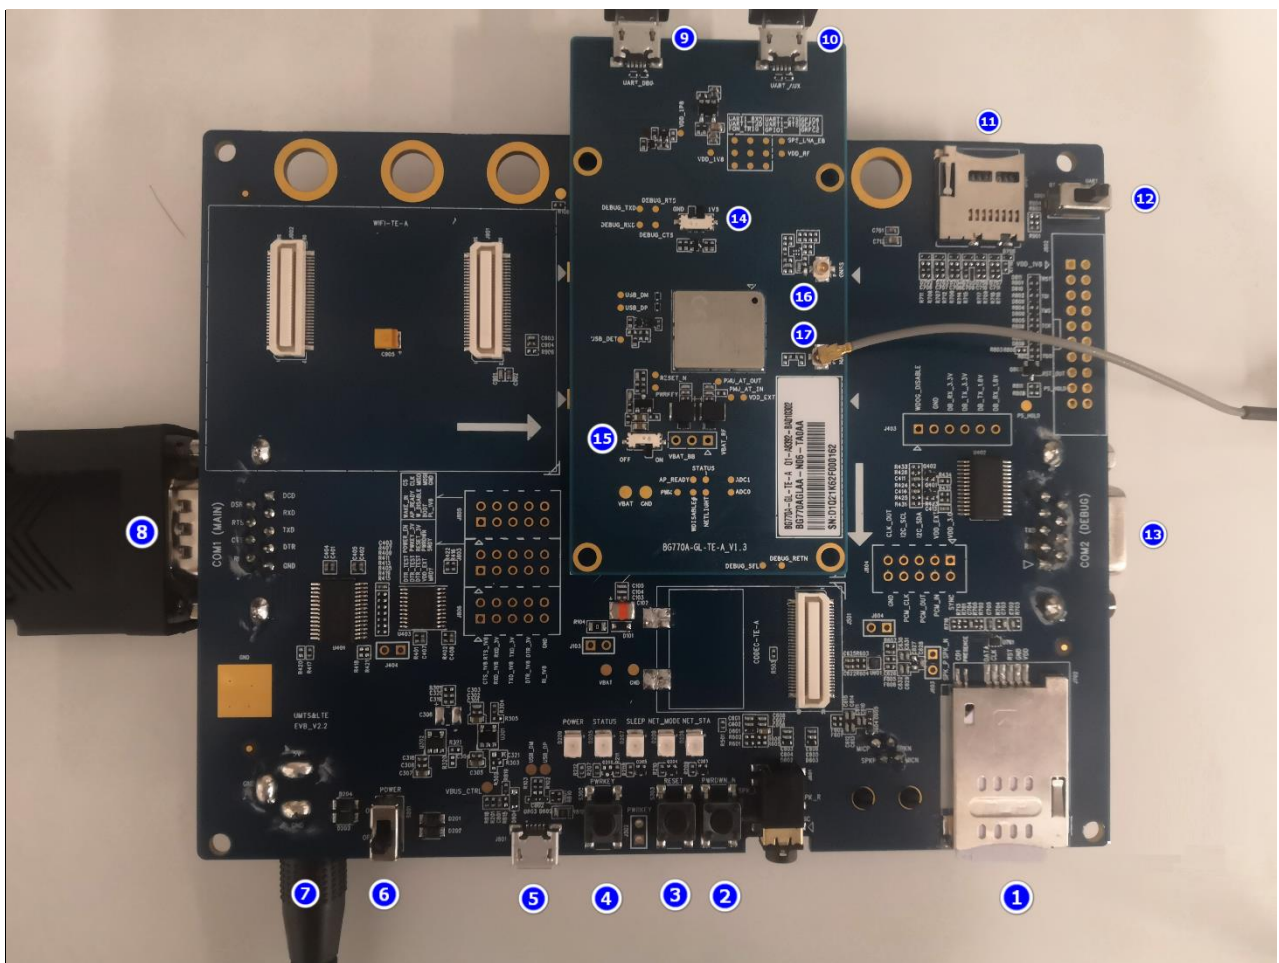

Figure 1: BG770A-GL TE-A
3. The differences between BG95xA-GL TE-A and BG77xA-GL TE-A are the location and name of the interfaces (i.e., the interfaces marked 9, 10). See **Figures 1** and **2**.